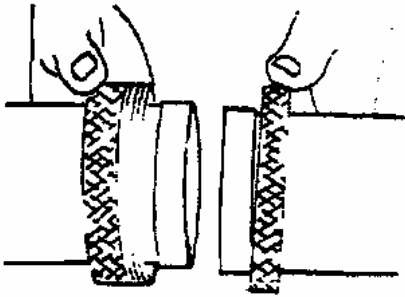

Figure 11. Installing Body and Nut
- a. Install body on one tube end and nut on other tube end (Figure 11). Body and nut will fit over ferrules.